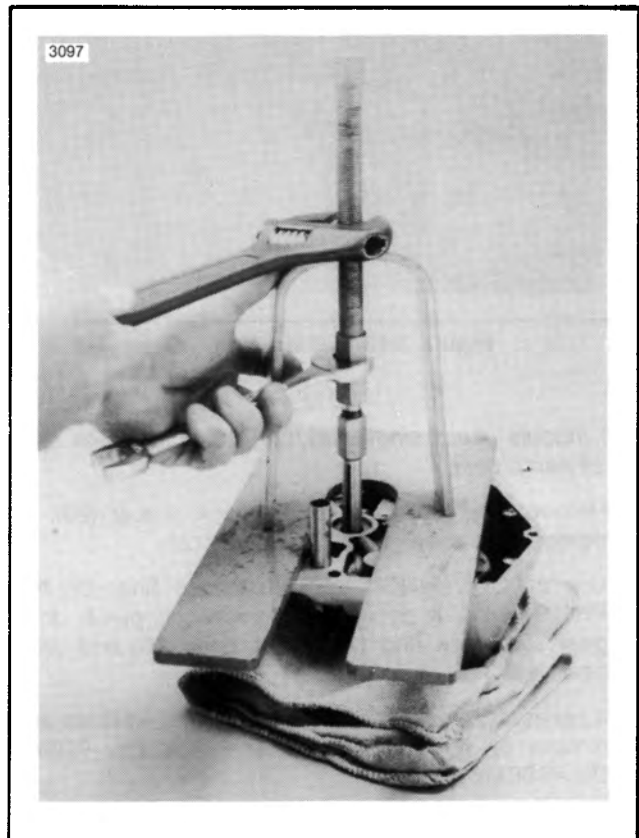

Figure 3-35. Removing Cover Bushing
- See Figure 3-35. To remove old bushing, use PULLER TOOL, Part No. HD-95760-69 with a 0.500 in. collet.